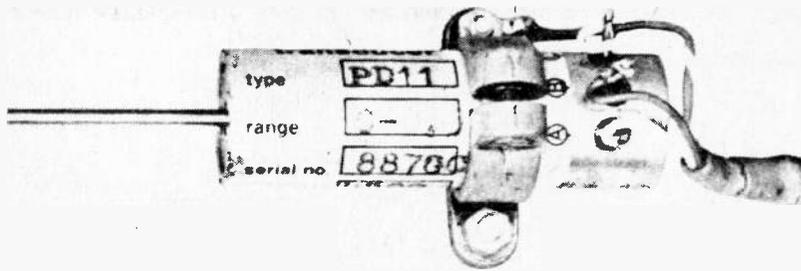

Fig. 4. A linear wire wound displacement transducer having 25 $\mu$ m resolution.
**Potentiometers**, whether linear or rotary, consist of a resistance track upon which slides a contact wiper. The earliest precision potentiometers used fine resistance-wire wound around a toroidal former. As the wiper moved over the turns, the output changed abruptly and this limited the resolution. A modern type linear potentiometer is shown in Fig. 4. Infinite resolution has been obtained by using a continuous slider running longitudinally along the wire (it may also be obtained by the use of composite-material track). Repeatability is limited by the precision of the wiper contact position and slight variations in electrical contact. Due to relatively poor repeatability and reliability, and